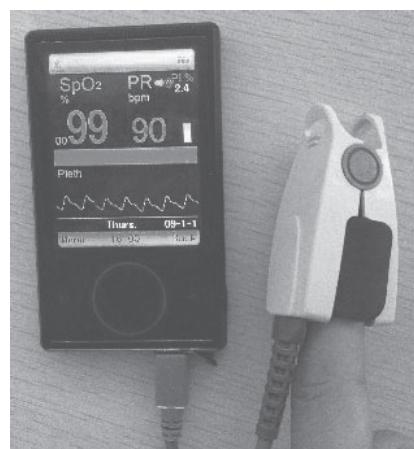

Figure 5.
6.1.1. Connect the probe well according to the method introduced in chapter 5.3, then put the finger into the probe. Refer ro Figure 5.
- B. The finger should be in a proper position (see the attached illustration of Figure 5 for reference), or else it may result in inaccurate measure.